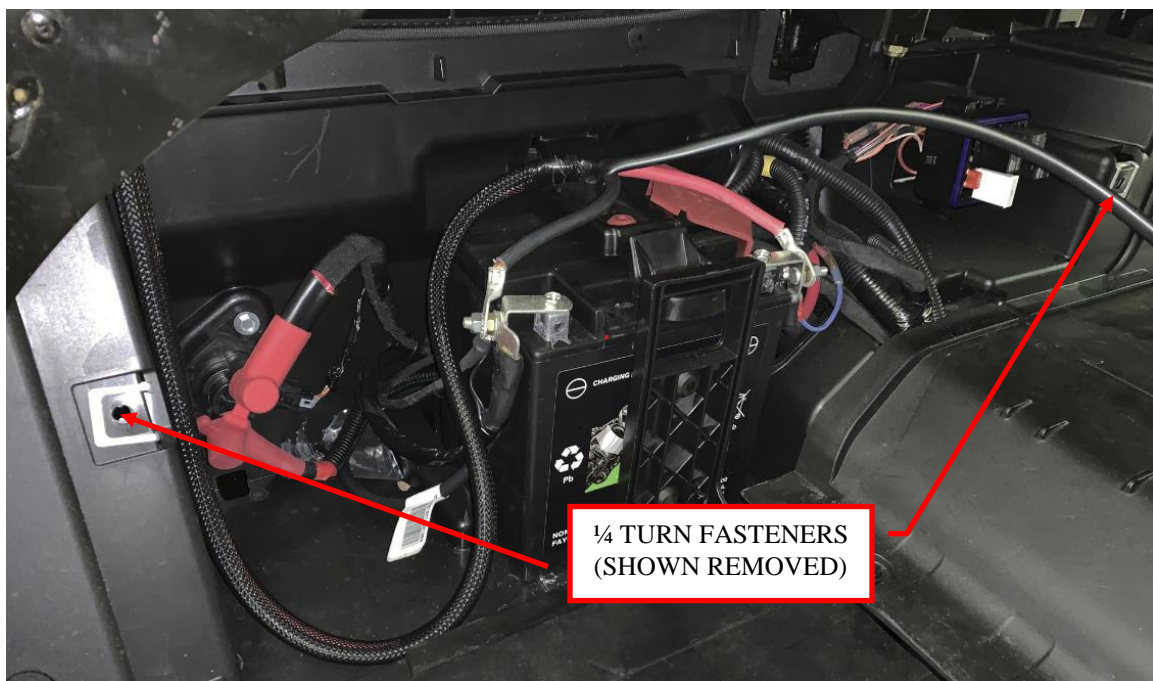

Figure 11: Fold seat up and remove panel for battery access.
12. Fold the rear seat up to access the battery. With the seat folded up, remove the passenger side battery access panel by turning the $\frac{1}{4}$ turn latches. See Figure 11.
23. Close the hood, reinstall the wire access tunnel cover, and battery cover. The corner of the battery cover can be trimmed to allow the Audio Shade harness to pass through for a better fit. See Figure 14 and Figure 11.